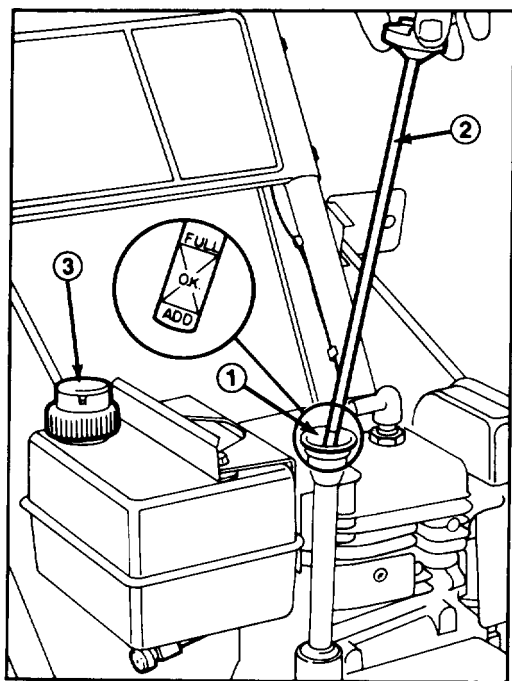

Figure 12
3. Remove dipstick from crankcase (Fig. 12).
4. Slowly, pour 21 ounces (0.621 l) of SAE 5W30 or SAE 10 oil into the filler hole (Fig. 12). The engine uses only high-quality detergent oil having the American Petroleum Institute —API— “service classification” SC, SD or SE.
1. Clean area around the fuel tank cap. Remove cap from fuel tank and fill tank to within 1/2 inch (13 mm) from the top with gasoline. Reinstall tank cap (Fig. 12).